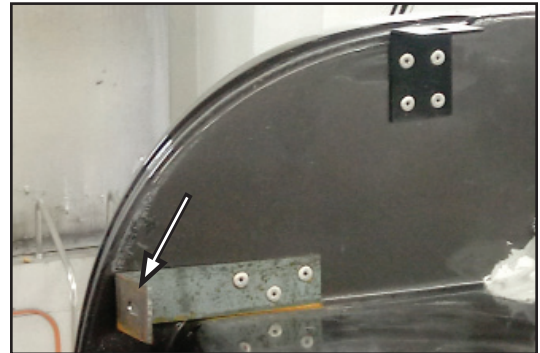

Figure 5
8. Move to the doorside of the coach and locate the lower mounting bracket under the air deflector at the corner of the fiberglass cap. See Figures 5 and 6 for detail. Remove the nut and washer from the mounting bracket stud with a 7/16" socket/ratchet and set them aside for reinstallation.